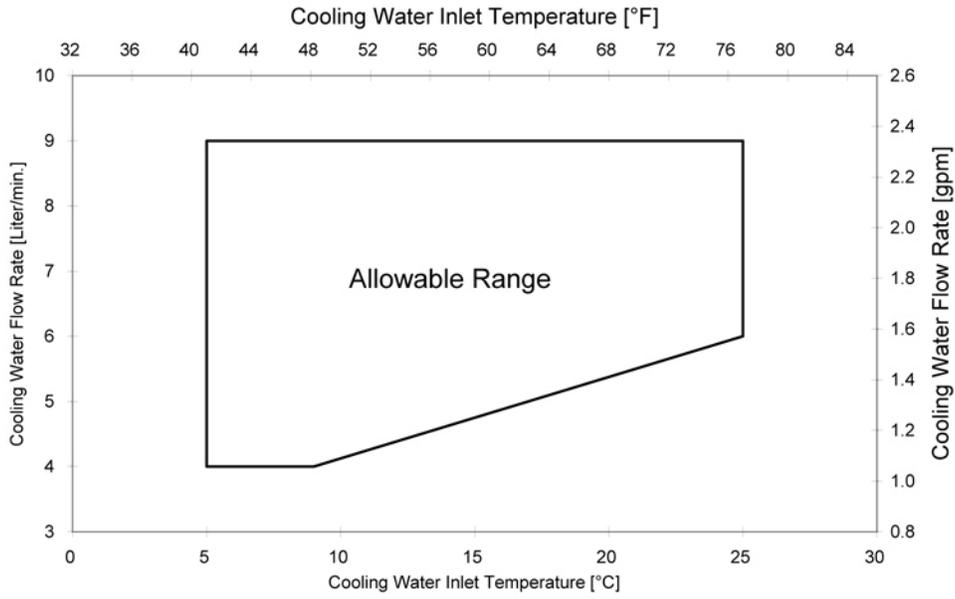

Figure 2 Allowable Cooling Water Range for F-70 Compressor
**Cooling Requirements (See Figures 2 and 3)**